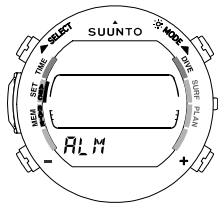

Fig. 5.6 Daily Alarm Setting Mode.
1. In the Setting Mode, press **SELECT** two (2) times to select the Daily alarm Setting Mode (Fig. 5.6).